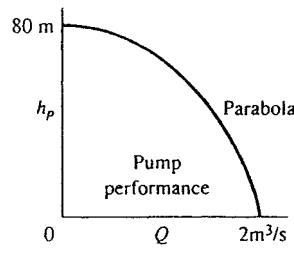

Fig. P6.80
**6.85** The pump of Fig. P6.80 is used to deliver  $0.7 \text{ m}^3/\text{s}$  of methanol at  $20^\circ\text{C}$  through 95 m of cast-iron pipe. What is the proper pipe diameter?